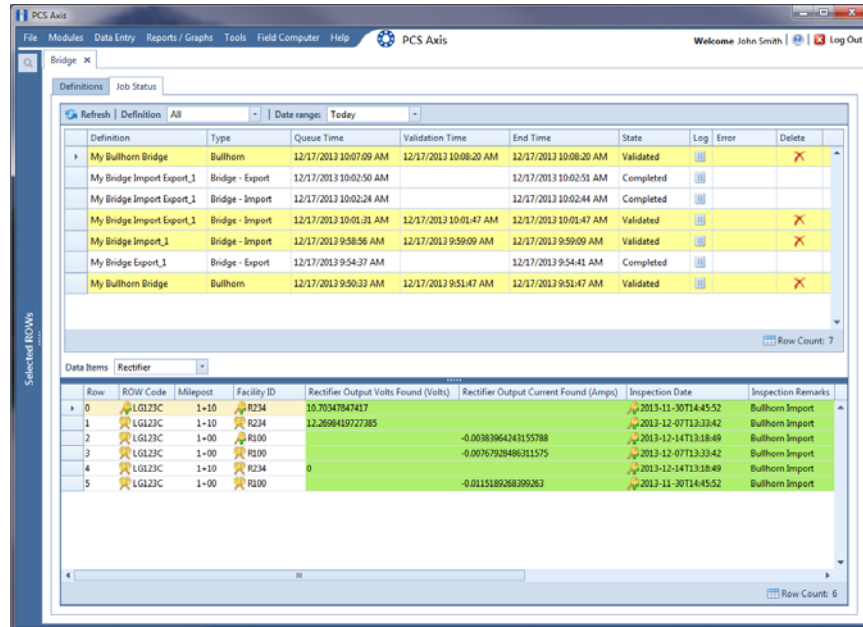

Figure 10-11. Job Status
- 15 To view the status of a Bridge session, click  **Job Status** in the *Definitions window* to open the *Job Status* window (Figure 10-11, page 466). Clicking  **Log** for a Bridge session opens the log file for the selected session.